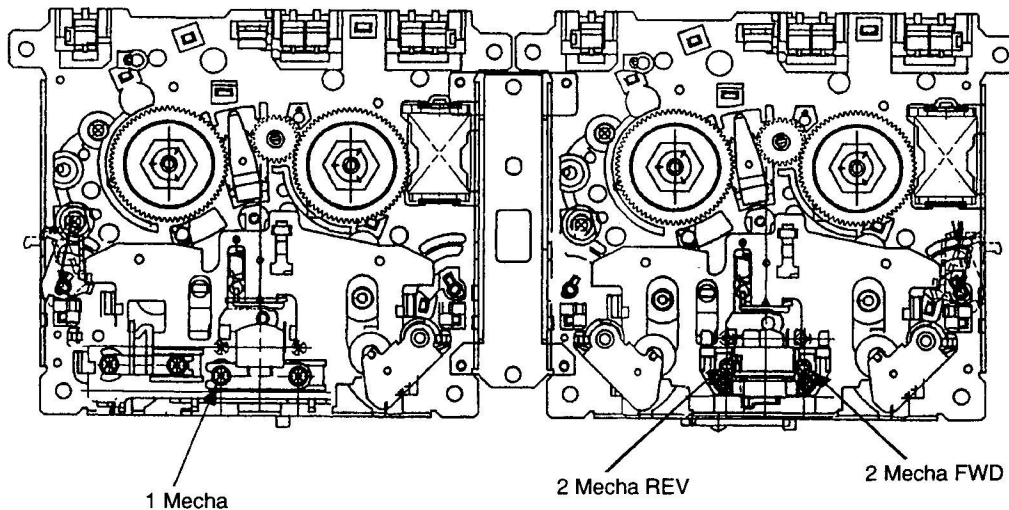

Fig. 2-2 Head Azimuth Adjustment screw
- Adjustment points and test points are shown in Fig. 2-2 and Fig. 2-3.